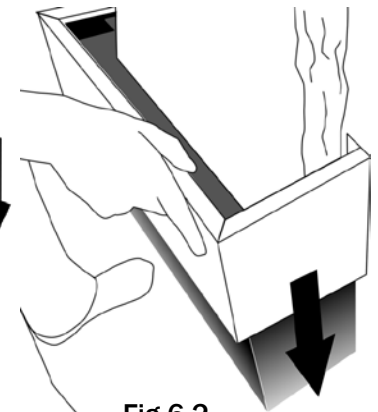

Fig 6.2
2. Install the Shroud by carefully sliding it behind the panel and down onto the reservoir (L) (Fig 6.2).